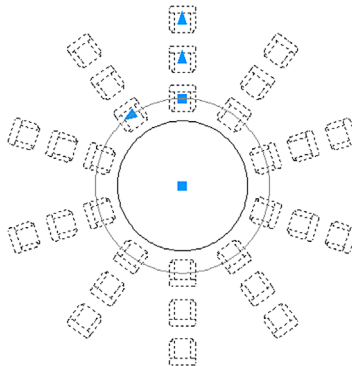

FIGURE 8.9 Row Count in progress.
- *Row Count*: This option adds another set of row(s) of items in front or behind the main row, as seen in Fig. 8.9.